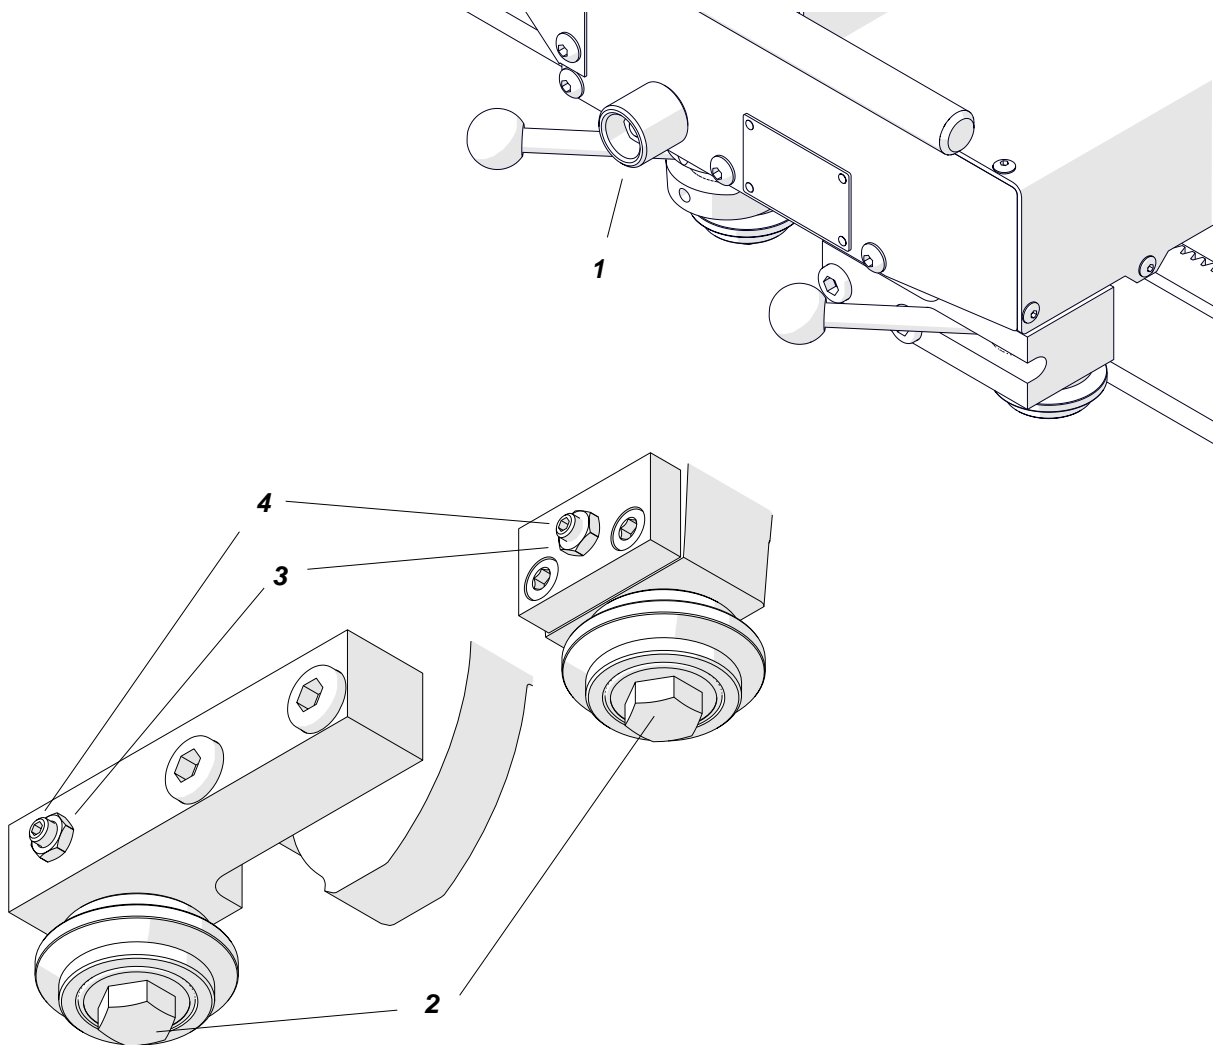

Fig. 12. Adjusting the pressure of rollers
If the resistance during the travel is too little or too much, loosen the knob (1, Fig. 12). At the opposite side of the carriage, use the 13 mm and 8 mm flat wrenches to loosen the bolts (2) and nuts (3). Next, use the 2.5 mm hex wrench to adjust the screws (4), and then tighten the bolts (2).